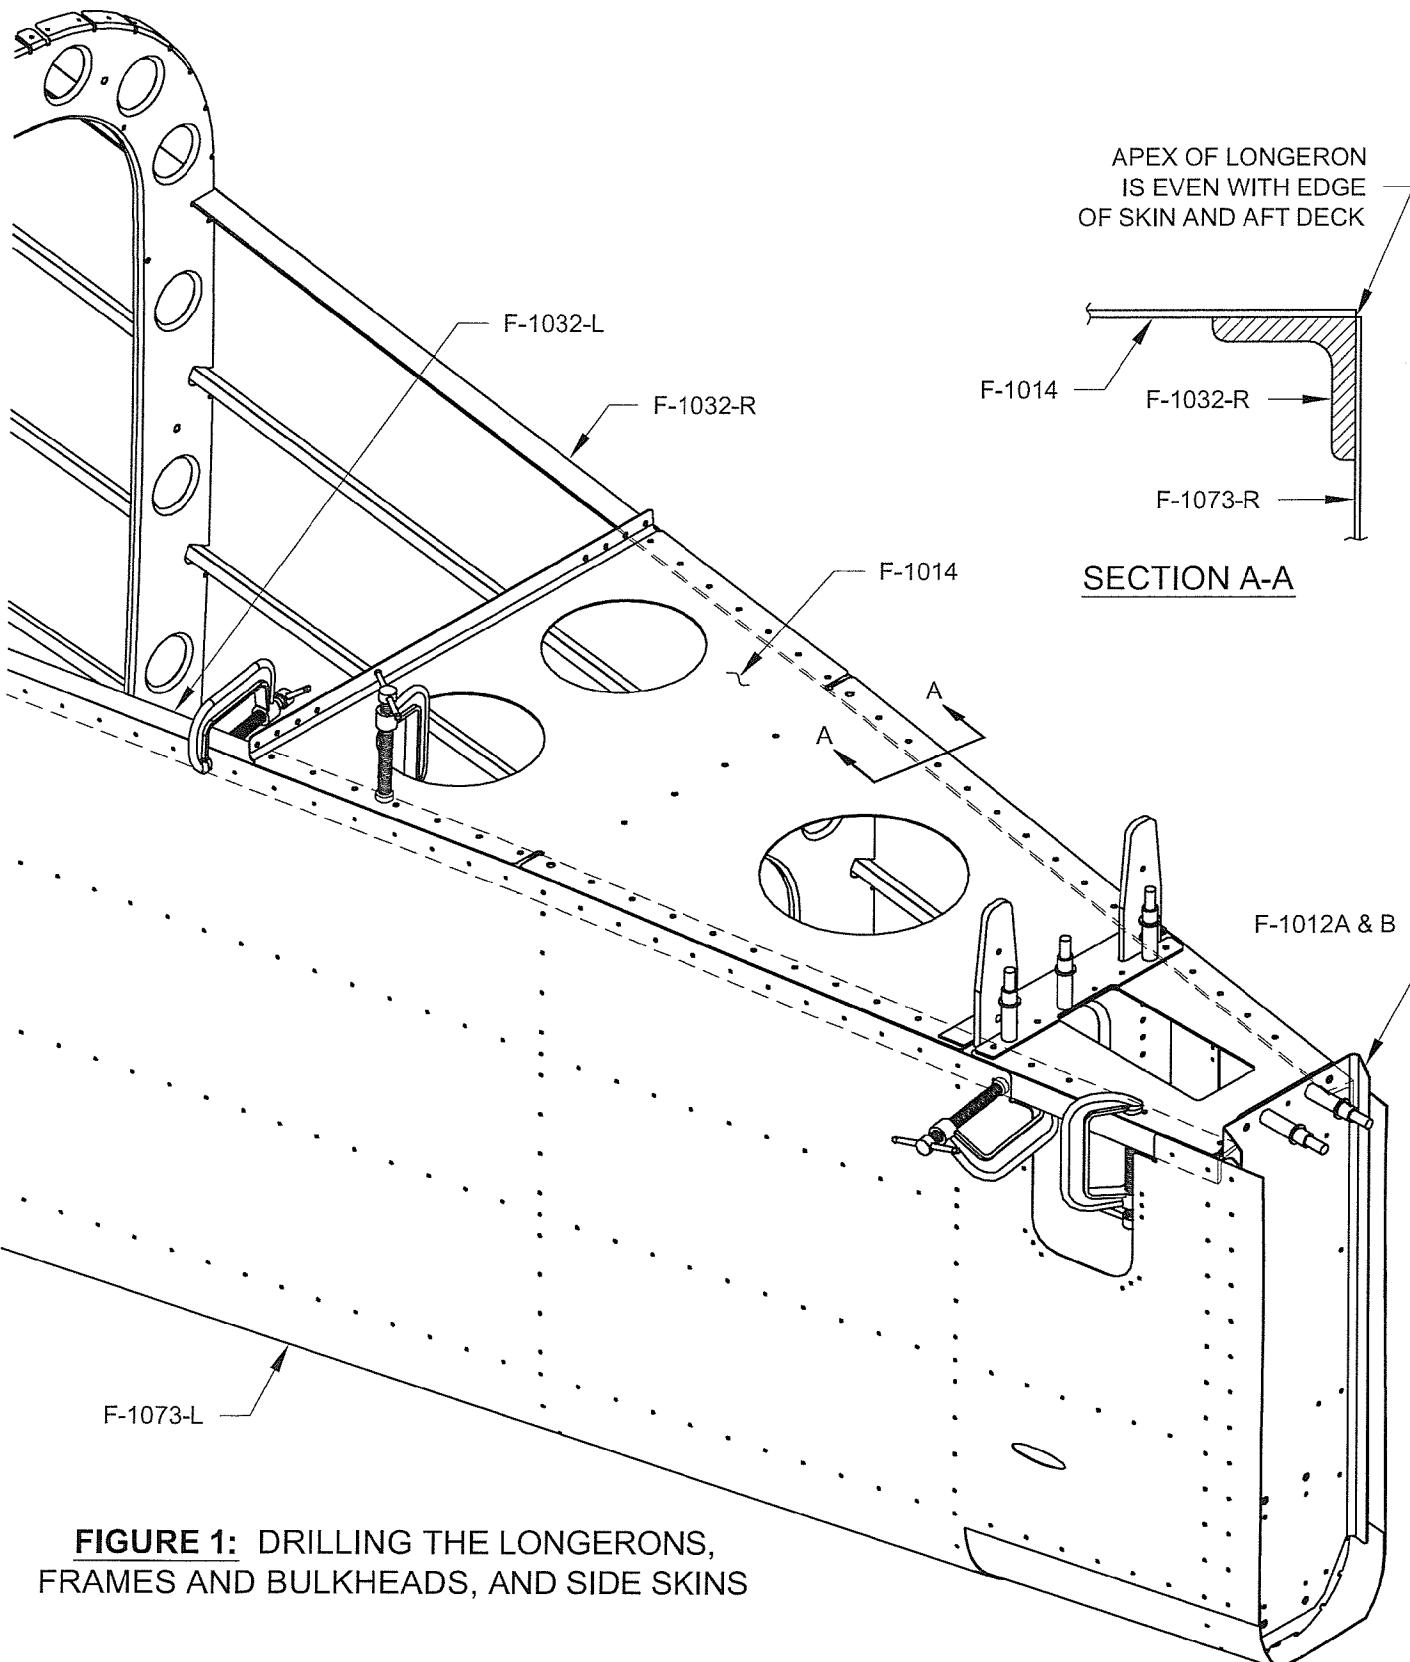

**FIGURE 3: CLECOING THE
Step 4: Uncleco the F-1073-L & -R Side Skins enough to insert the F-1032-L & -R Longerons into the notches of the frames and bulkheads as shown in Figure 3. The bend in the longerons should be located at the break in the side skin edges, and the aft end of the longerons should be very close to touching the web of the F-1012A Bulkhead. If the longerons don't fit into the notches in the sides of the F-1007 & -1008 Frames, the notches can be filed slightly until the longerons do fit.
Step 5: Center the F-1010B Spacer on the F-1010A Horizontal Stabilizer Attachment Angle as shown in Figure 3. Temporarily secure the spacer to the angle with carpet tape (thin double sticky-back tape that can be picked up at almost any hardware store).